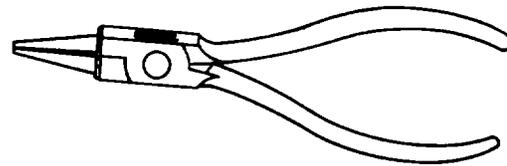

Figure 4-45. Round-Nose Pliers
(5) *Round-nose pliers.* The round-nose pliers are used to crimp flanges on sheet metal in the process of shrinking, and for making loops in soft wire. It has smooth, round jaws, a fixed pivot, and curved handles which may have insulated sleeves. It is shown in figure 4-45.